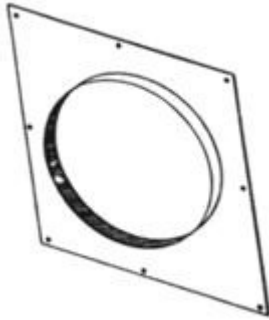

Figure 3: Metal Base Front
3. Mount the INSU-FLUE® Metal Base (see Figure 3) on page 3 onto the wall using the eight longer screws supplied for this purpose. Plan the Metal Base positioning so that any smoke pipe pitch stated in the Stove installation instructions will be maintained.